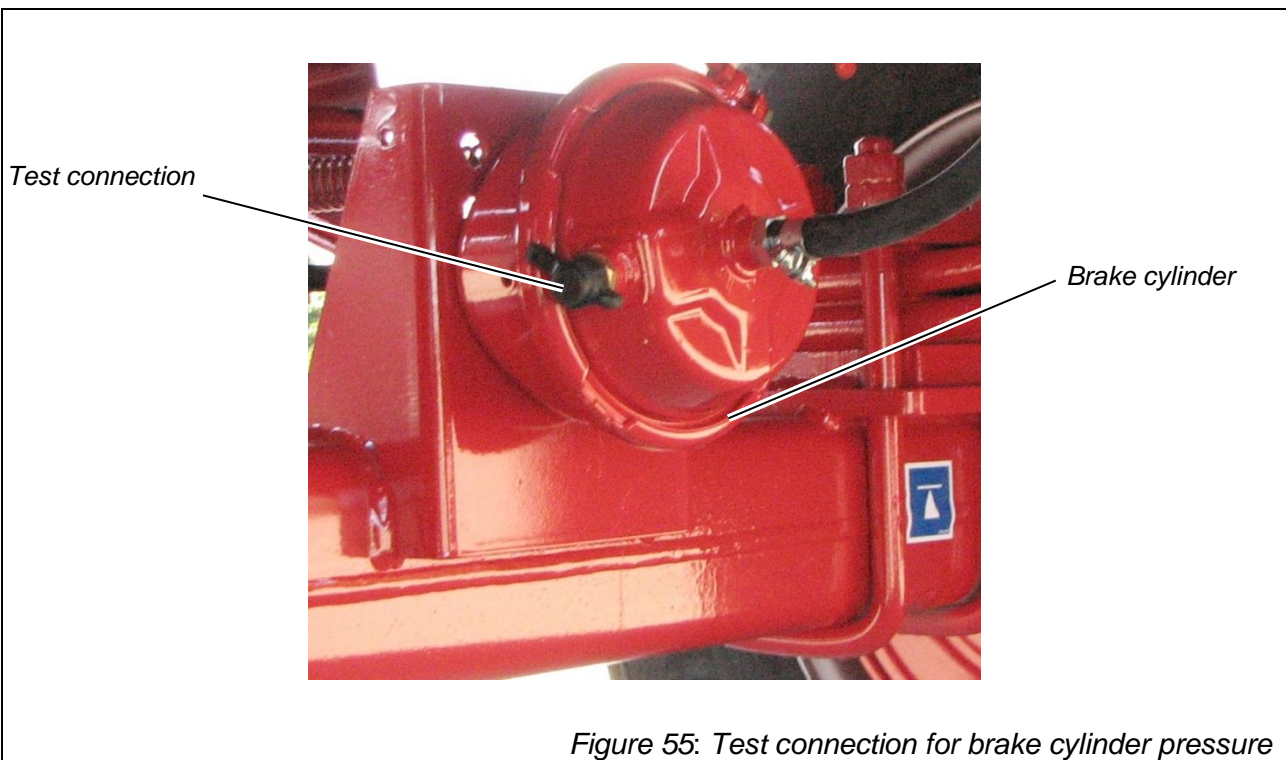

Figure 55: Test connection for brake cylinder pressure
- ⇒ Remove the protective cap from the test connection (see Figure 55).